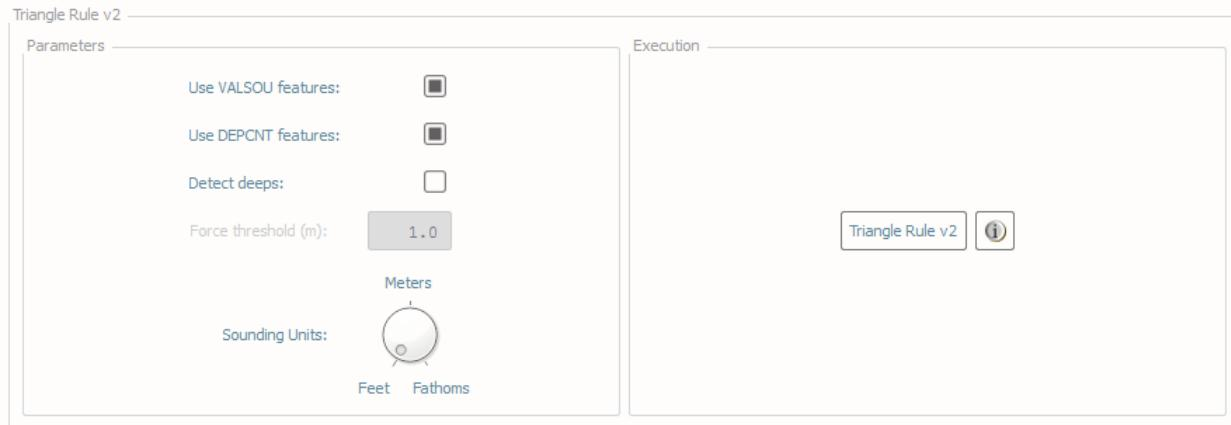

Fig. 2.67: Triangle rule's interface.
- In **Parameters** (Fig. 2.67, left side):
- In **Execution** (Fig. 2.67, right side), click **Triangle Rule v2**.